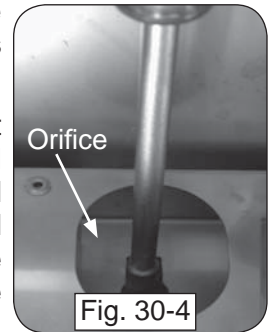

Fig. 30-4
5. Use a $\frac{3}{8}$ " hex nut driver to remove the exposed orifice (Fig. 30-4) and replace it with the correct orifice for the new gas. (See Table 1 at the beginning of this document for orifice sizes.)